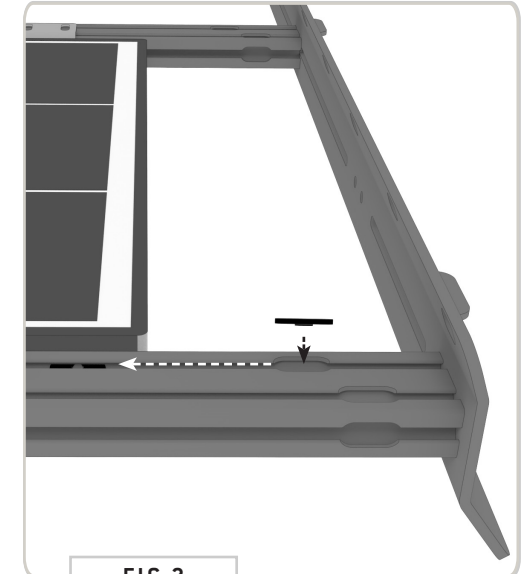
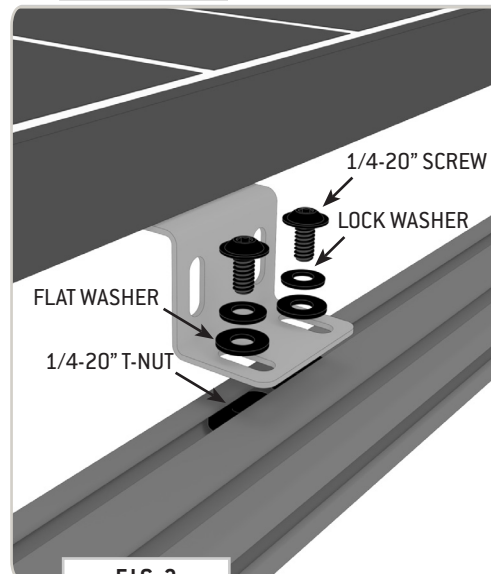

FIG 2
FIG 3
1.3 Attach Mounting Brackets to Crossbars: Insert four **1/4" T-Nuts** into the **Crossbar (FIG 2)** and slide them into position. Loosely attach **Solar Panel and Bracket** to the **Crossbar** using **(2) 1/4-20" Screws**, a **1/4" Belleville Lock Washer** and a **1/4" Flat Washer** in the stacking configuration shown in **(FIG 3)**.